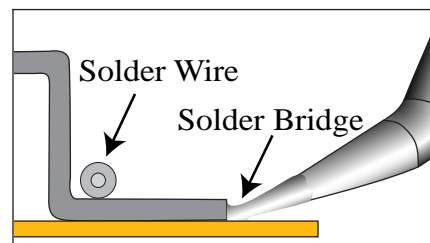

Figure 5 Align Tip Lead
11. Skipping the tacked leads, move down the row, placing the tip on each land consecutively, abutting the toe of lead. When the joint is properly formed, move to the next lead until the row is completed. (See Figure 5.)